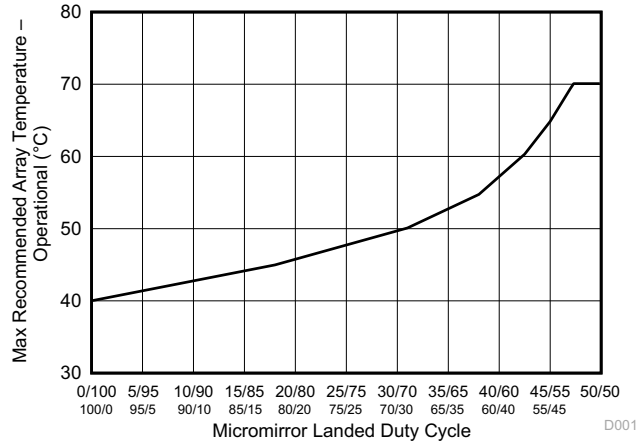

Figure 7-1. Maximum Recommended Array Temperature – Derating Curve
- (12) Per Figure 7-1, the maximum operational array temperature should be derated based on the micromirror landed duty cycle that the DMD experiences in the end application. Refer to Section 8.7 for a definition of micromirror landed duty cycle.
- (13) Long-term is defined as the usable life of the device.
- (14) Short-term is the total cumulative time over the useful life of the device.
- (15) The maximum marginal ray angle of the incoming illumination light at any point in the micromirror array, including at the pond of micromirrors (POM), should not exceed 55 degrees from the normal to the device array plane. The device window aperture has not necessarily been designed to allow incoming light at higher maximum angles to pass to the micromirrors, and the device performance has not been tested nor qualified at angles exceeding this. Illumination light exceeding this angle outside the micromirror array (including POM) will contribute to thermal limitations described in this document and may negatively affect lifetime.